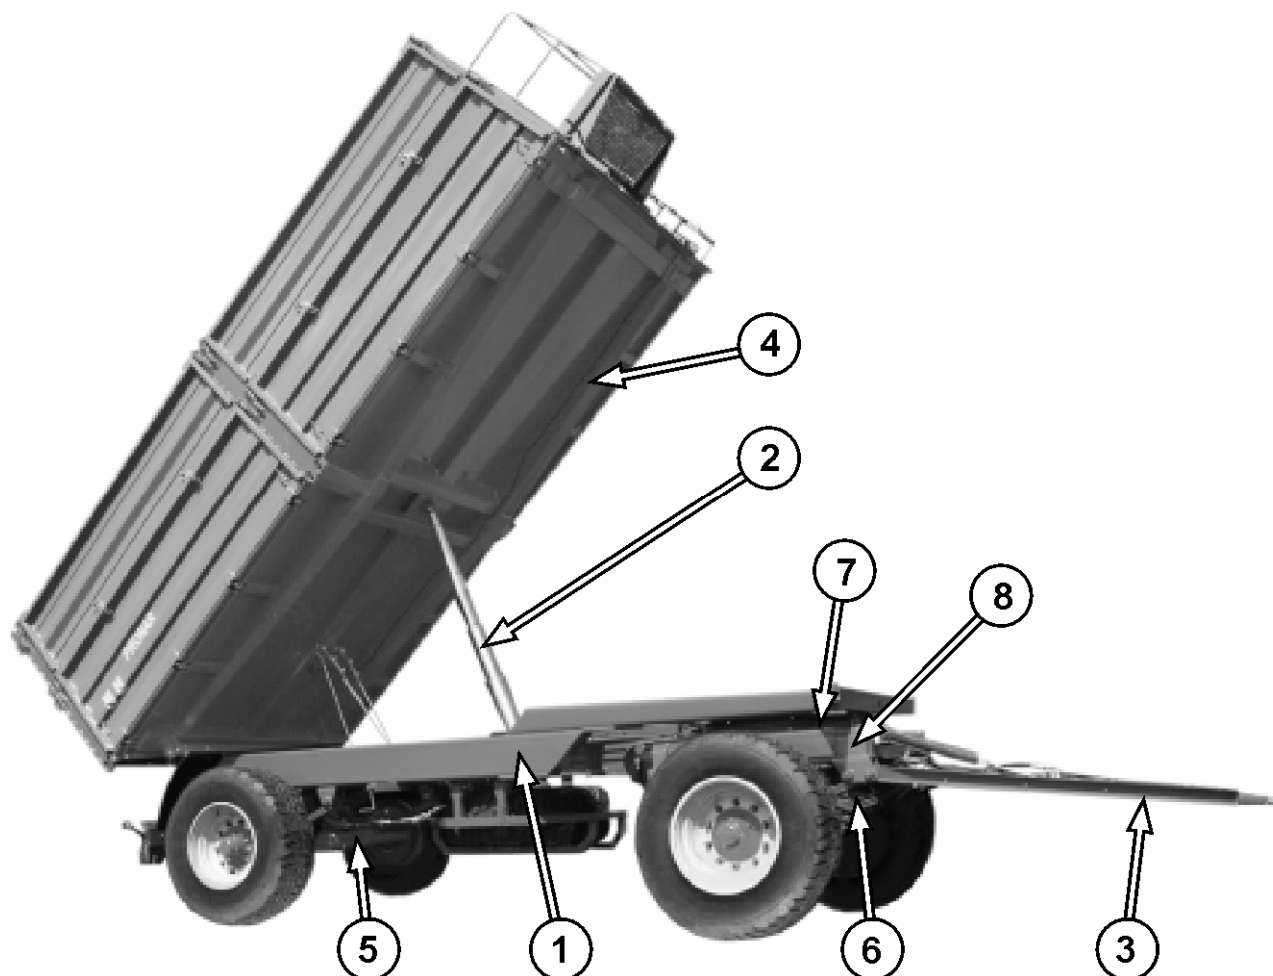

Fig. 2 Chassis and upper frame
Trailer's undercarriage consists of parts shown on the Fig. 2. The lower frame (1) is a welded structure made of steel profiles. Main carrying elements are two stringers connected each to other with cross-bars. The rear part of the frame is fitted with bolts for mounting the upper frame (4), the middle part – with a seat for hydraulic cylinder (2). The front frame part is fitted elements of front axle suspension: turntable (7), turntable frame (8), suspension springs (6) and hitch bar (3). The rear part of the frame is fitted also with mountings for the rear axle (5) and for rear lighting elements.